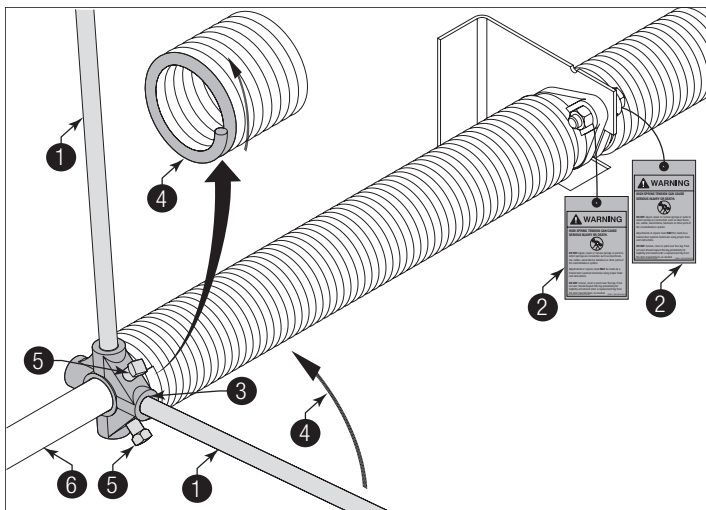

Figure 57
**PRIOR TO WINDING THE SPRING, ENSURE YOU'RE WINDING IN THE PROPER DIRECTION AS SHOWN IN FIGURE 57. OTHERWISE THE SPRING FITTING MAY RELEASE FROM SPRING AND RESULT IN SEVERE OR FATAL INJURY.**